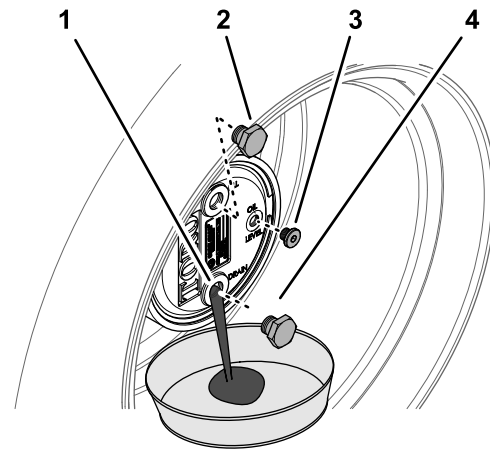

Figure 100
3. Place a drain pan under the planetary hub, remove the drain plug at the 6 o'clock position, and allow the oil to fully drain (Figure 100).
5. Install the drain plug into the drain hole of the planetary housing (Figure 100).
2. Remove the fill plug at the 12 o'clock position and the check plug at the 3 o'clock position (Figure 100).